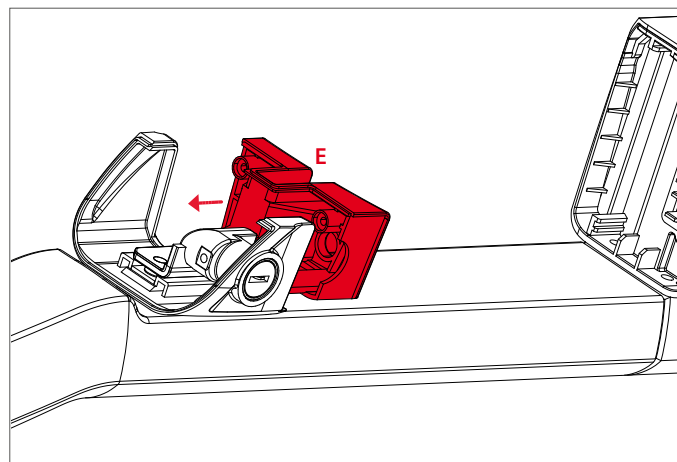

Figure 4.23 Inserting the middle part
4. Insert the middle part [E] (Fig. 4.23).